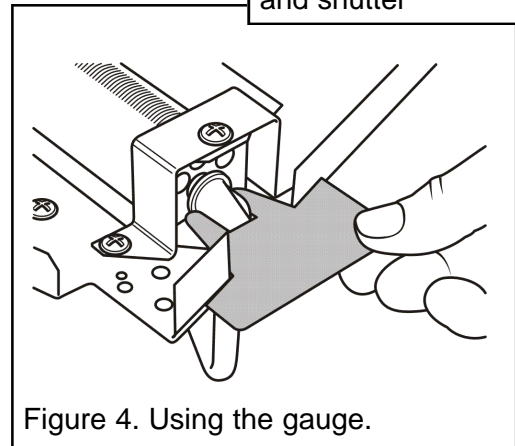

Figure 4. Using the gauge.
2. The kit contains an injector alignment gauge. It is important that this gauge is used to ensure that the injector is correctly aligned with the burner. Failure to check may result in poor combustion. After re-fitting the burner place the gauge into the cut out at the side of the burner tray. The slot in the gauge should surround the injector as in figure 4. If the gauge will not fit, the injector alignment will require correction. To do this, support the top of the injector and gently rotate it. Continue to rotate and check with the gauge until correct.